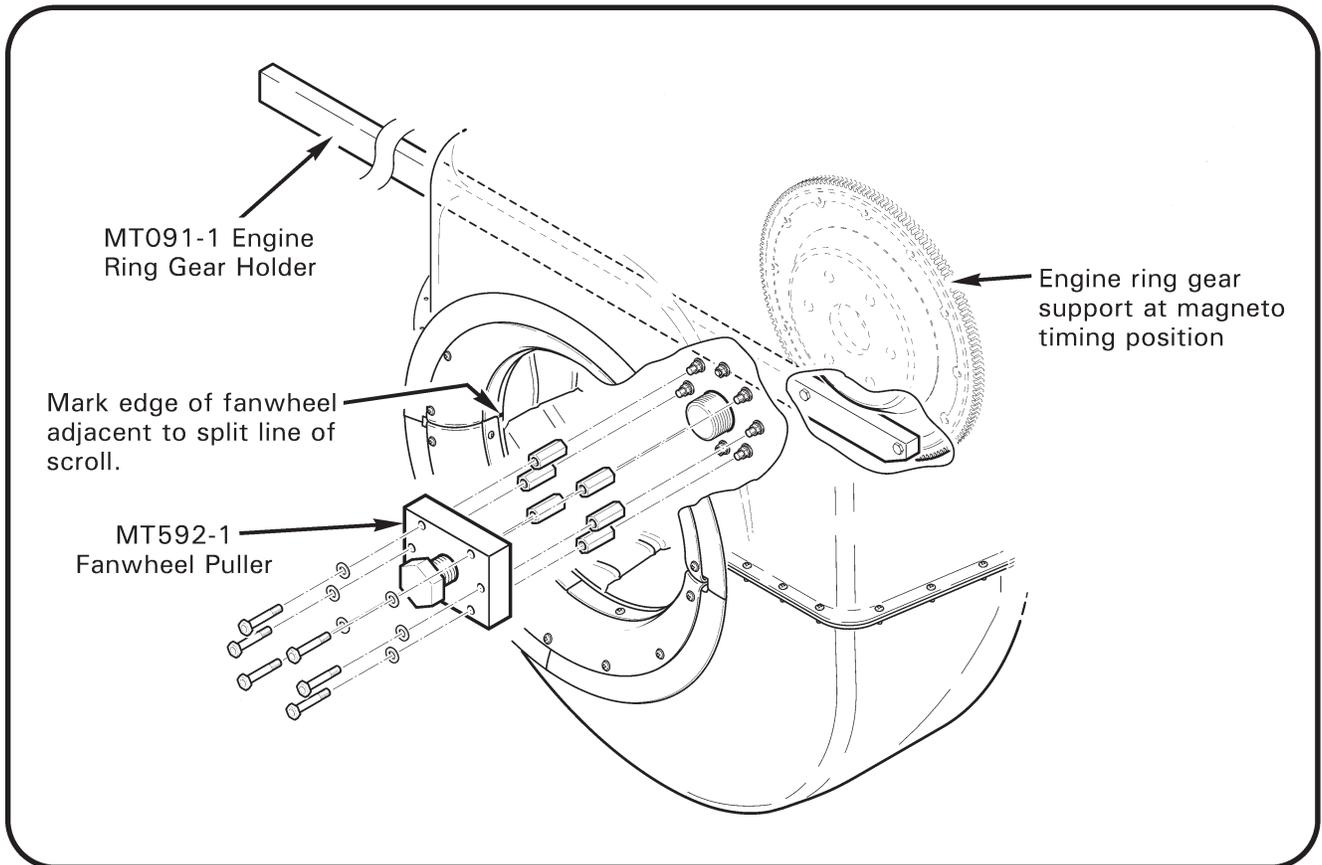

FIGURE 6-4 FANWHEEL PULLER INSTALLATION
If same fanwheel will be reinstalled then orient starter ring gear support to magneto timing position and mark fanwheel at split line of scroll; this will minimize need for new balance weights. See Figure 6-4.
9. Back out MT592-1 fanwheel puller's center bolt, lubricate bolt tip & threads with A257-9 anti-seize, and attach puller to the MT092-3 spacers (see Figure 6-4).
10. An air-or electric-impact wrench may be used to tighten fanwheel puller's center bolt & unseat fanwheel. Alternately, securely attach MT091-1 starter ring gear holding tool and immobilize tool so ring gear remains stationary (see Figure 6-4).